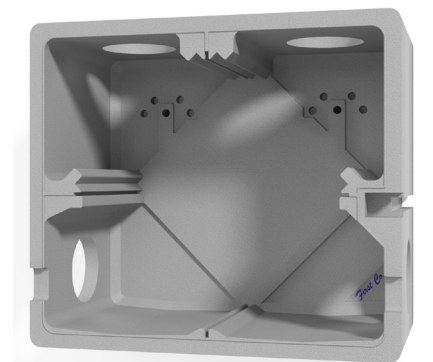

FIGURE 5
7. **Unique "Sleeve Drain" Condensate System** - (Also see Figure 5) A factory installed drain line connects the evaporator drain pan to a vertical pipe connection in the **Fresh-Pak** base pan. Evaporator condensate is delivered from the **Fresh-Pak** unit to a catch tray in the wall sleeve and exits the sleeve through the 3/4" male NPT fitting. This design allows the plumber to completely pipe the drain to a condensate riser during the rough-in stage, thus eliminating condensate connection problems usually encountered when trying to connect the HVAC drain to the riser after the HVAC unit is installed in the closet. This features also allows the **Fresh-Pak** unit to be removed for service without disconnecting the condensate piping! This configuration does not require any additional closet space to make the drain connection, as do some competitive products.
12. ERV cabinet (Figure 5)